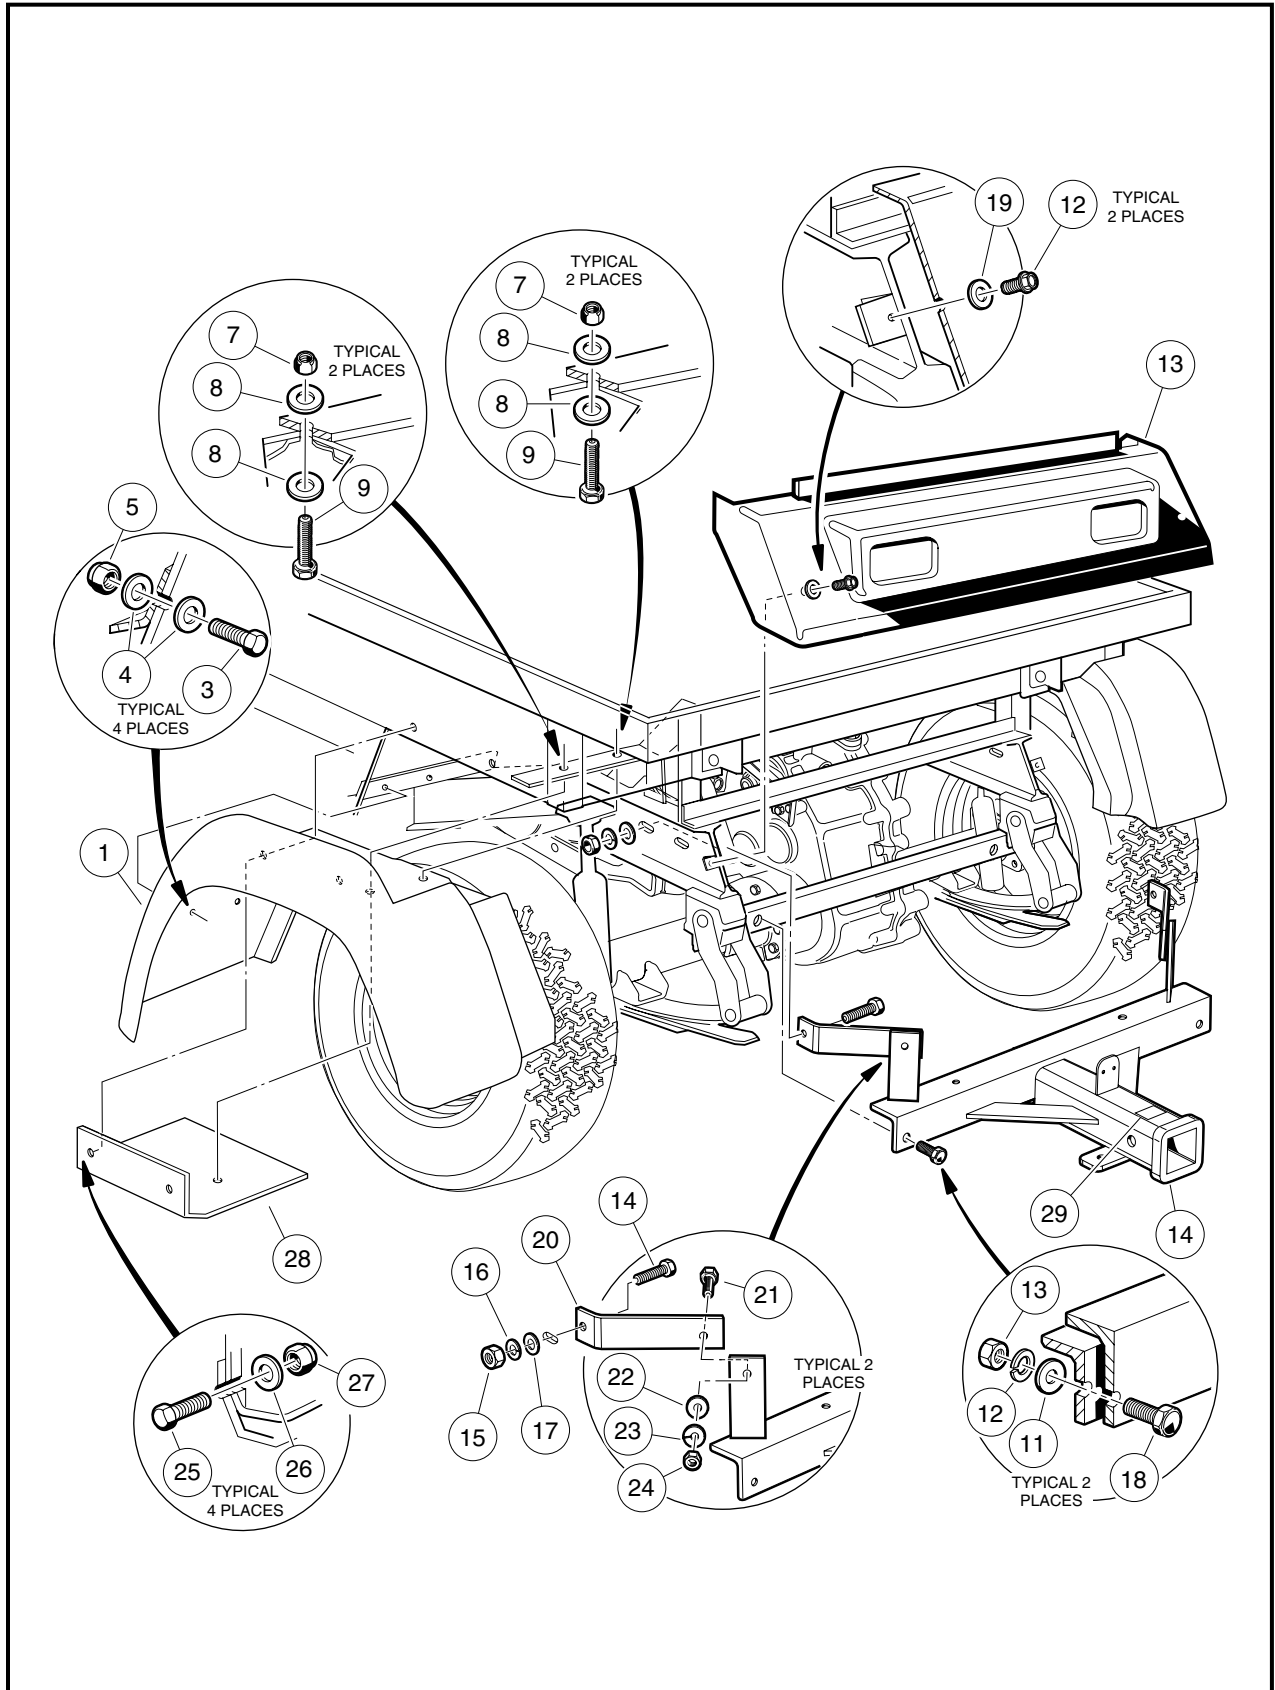

Figure 4-6 Rear Fender, Tailskirt, and Hitch – Vehicle with MC010C-BS00 Transaxle
- 2.1. Remove the two 1/4-20 nylon lock nuts (5), fender washers (4) and 1/4-20 x 1-inch hex-head bolts (3) from the front surface of the fender (1) (**Figure 4-6, Page 4-17**).
- 2.1. Reverse removal procedure to install rear fender. Tighten all bolts securing the fender to the vehicle to 35 in-lb (4.0 N·m) (**Figure 4-6, Page 4-17**). **See following NOTE.**
- 2.1. Remove the two thread-forming screws (12) and flat washers (19) from the tailskirt (13) and slide tailskirt from under the back edge of the rear of the body and vehicle frame (**Figure 4-6, Page 4-17**).
- 2.1. Insert upper edge of tailskirt (13) under, and in front of, back edge of rear body (**Figure 4-6, Page 4-17**).
- 2.2. Remove two 5/16-18 hex nuts (24), lock washers (23), flat washers (22) and 5/16-18 x 1-inch bolts (21) from hitch brace (20) and hitch frame (14) (**Figure 4-6, Page 4-17**).
- 2.3. Remove two 5/16-18 hex nuts (13), lock washers (12), flat washers (11) and 5/16-18 x 1-inch bolts (18) where the hitch frame (14) mounts to the vehicle frame (**Figure 4-6, Page 4-17**).
- 2.1. Reverse removal procedures to install hitch frame (14) to vehicle frame, then hitch frame (14) to hitch braces (20). Tighten all hardware to 15 ft.-lb (20.3 N·m) (**Figure 4-6, Page 4-17**).